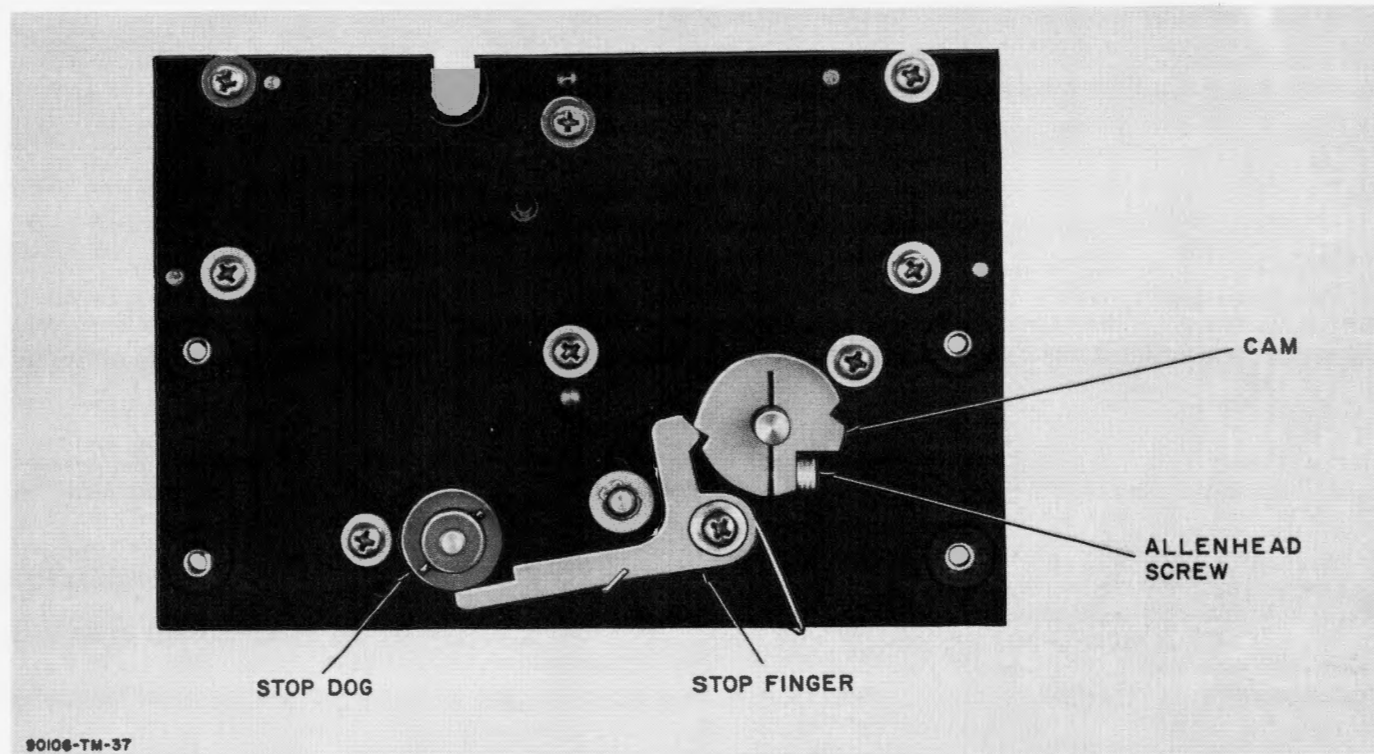

Figure 6-9. Tuning Drive Subassembly, Cam and Stop Dog Alignment
(50) Rotate gear and shaft assembly (61) counterclockwise until 276.56 appears on Band V control dials.
(51) Adjust cam (47) and stop dog (50) in position as shown in figure 6-9. Tighten Allen-head screw (45) and setscrew.
(52) Rotate gear and shaft assembly (61) approximately 1-1/2 turn clockwise and counterclockwise, noting stop action of stop finger (42).